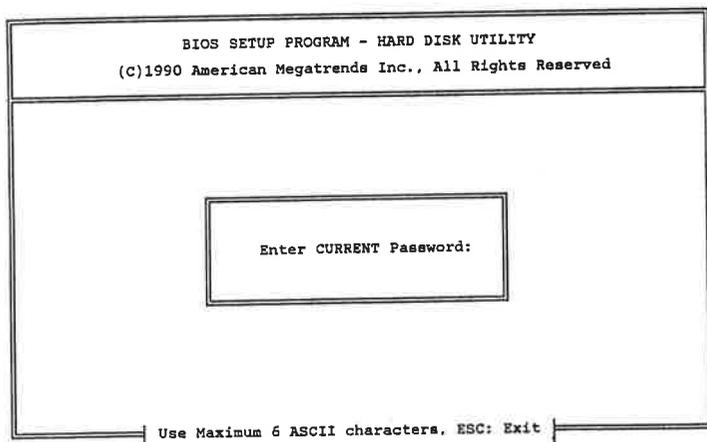

Fig 8.8
To change the user password, select the Change Password option from the main Setup screen. The screen in Figure 8.8 (see next page) will appear.
- The screen will not display the characters entered. After the current password has been correctly entered, the central prompt box in Figure 8.8 will display: